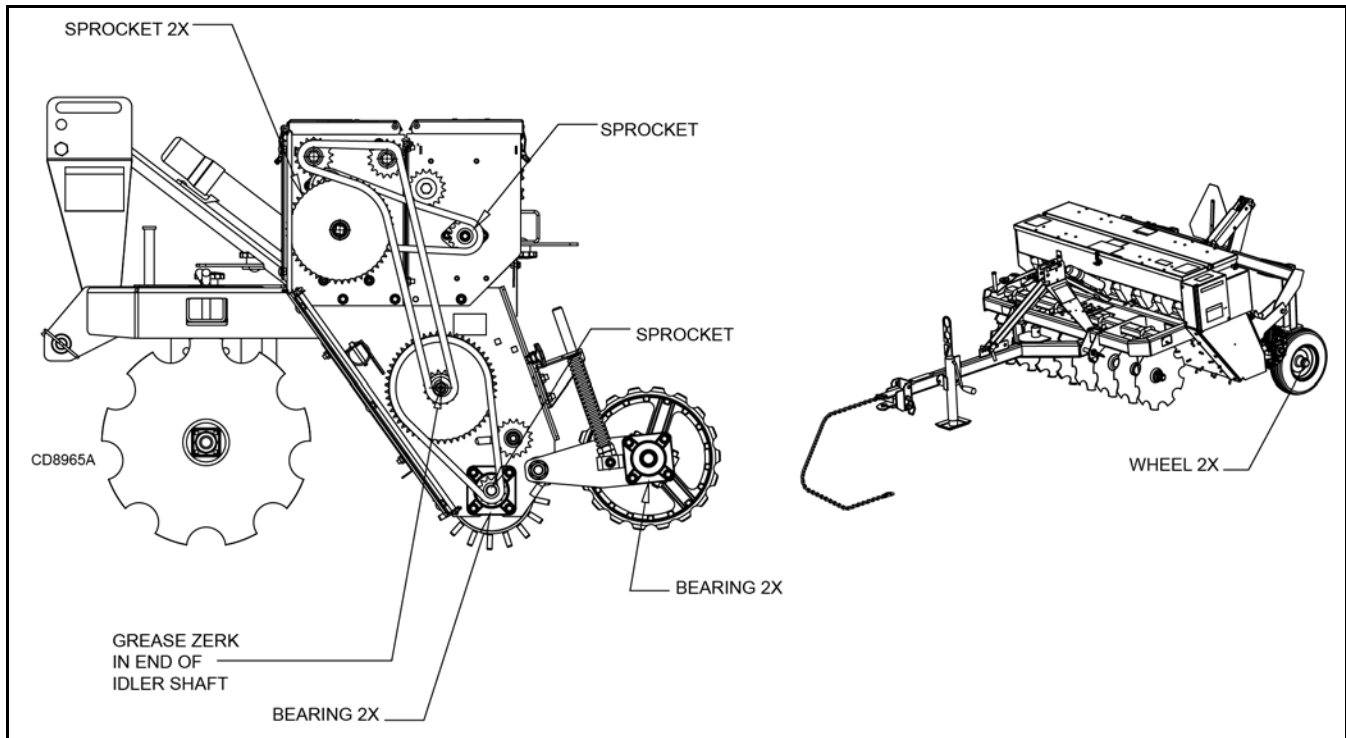

Figure 29. Lubrication Points
- ___ Check all lubrication points and grease as instructed in Lubrication Information, Figure 29.
1. Lubricate all bearing housings every 8 hours. Bearing housings are located on each end of rollers as indicated by grease fitting. See Figure 29. If equipped with tow kit, repack wheel bearings with grease every 8 hours.